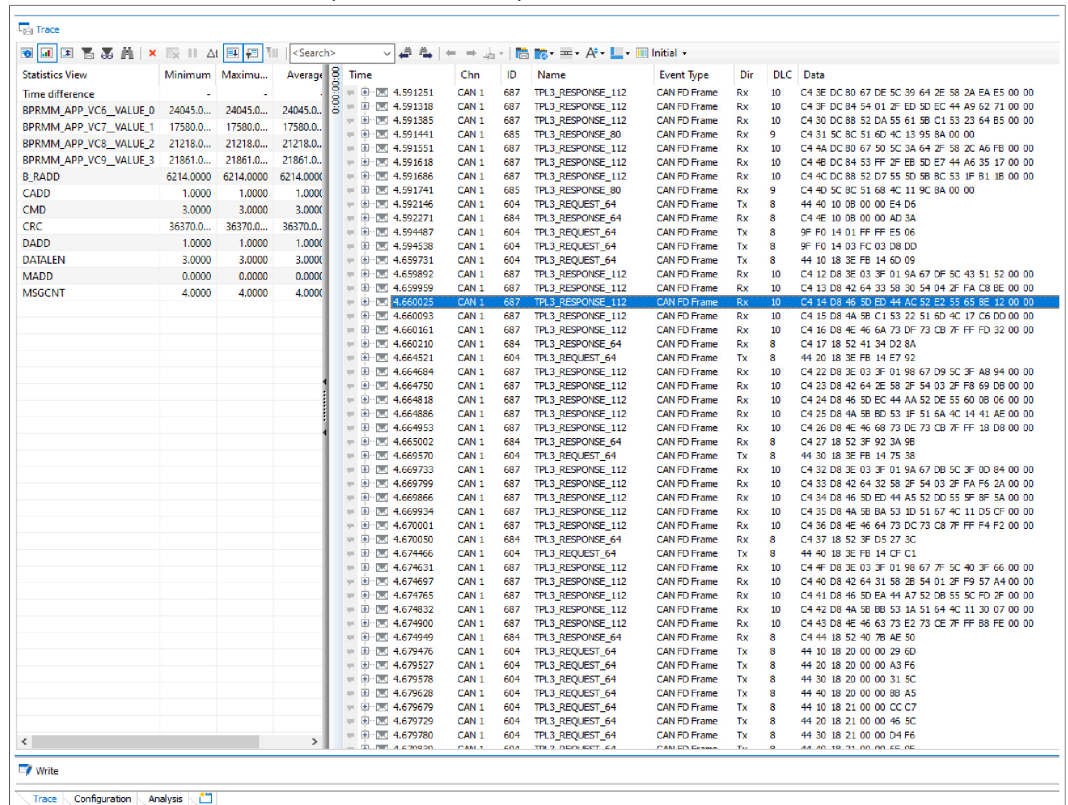

Figure 11. CCMU demo trace window
- Click the **START** button to run the setup in CAN FD with updated data baud rate settings. CAN or CAN FD traffic can be monitored and logged using 'Trace' window as shown in Figure 11
18. Figure 11 shows the data for cell voltages for a given CADD, DADD, RADD, MADD, and relevant TPL message information. Trace window is used to check the timing of requests and responses from MC33665A.